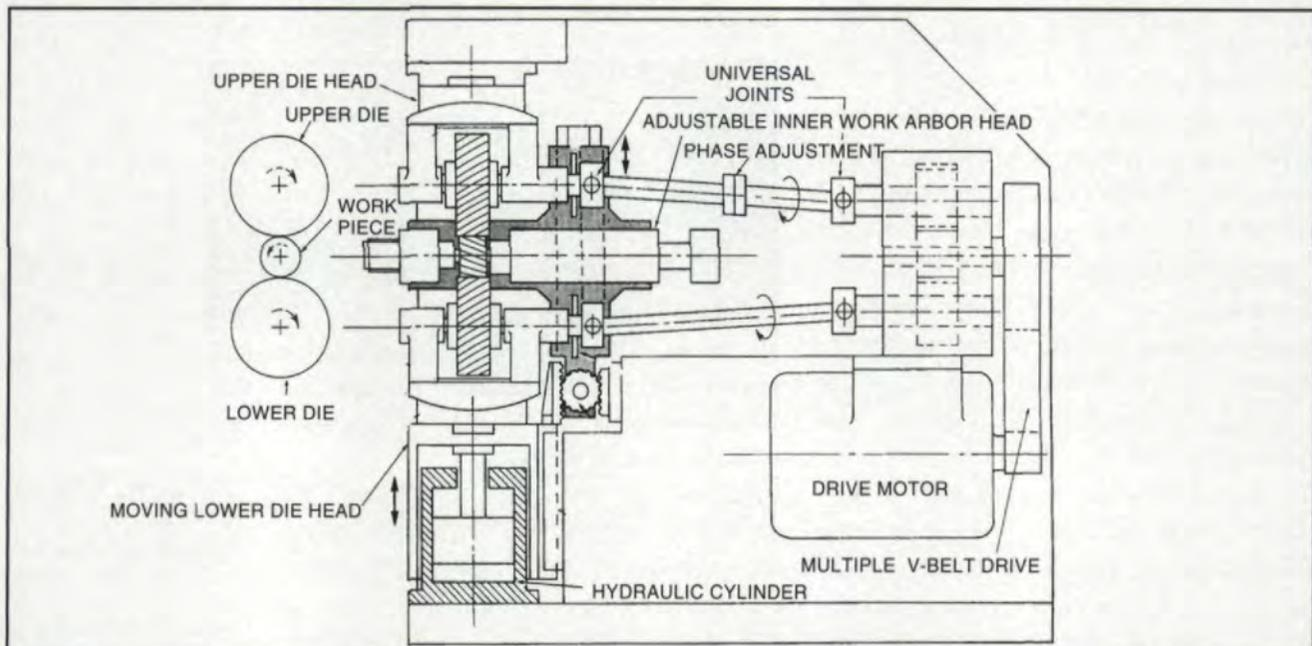

Fig. 8 - Schematic of vertical roll machine.
**Double-Die Gear Rolling** - The double-die gear roll machine shown in Fig. 8 is a vertical design with the dies mounted one above the other. It is designed to handle gears up to 10 cm (4") wide and 15 cm (6") in diameter. Die speeds are from 40 to 160 r/min. Dies up to 11.4 cm (4 1/2") wide and 24.4 cm (9 5/8") in diameter can be mounted in the machine.